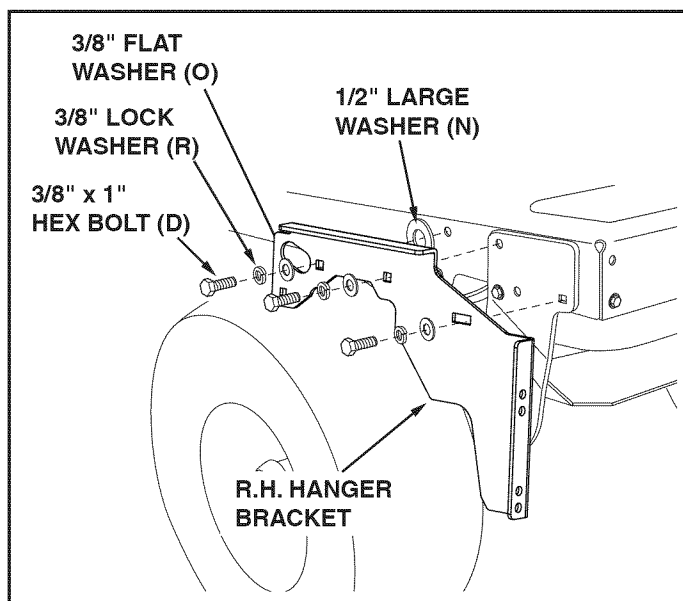

FIGURE 6
### STEP 2: (SEE FIGURE 6)
- Assemble the two angle lock bars together as shown in figure 6, so that all holes are aligned. Use one 3/8" x 1-1/4" carriage bolt (E) and one 3/8" nylock nut (M). Be sure to insert bolt from side indicated. **Do not tighten at this time.**